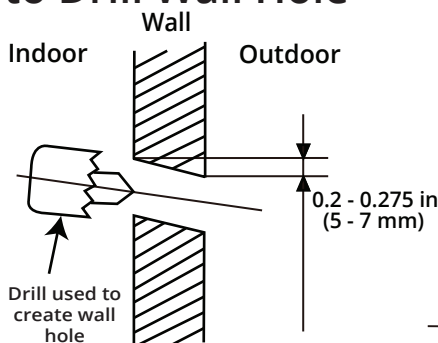

Fig. 4.3
2. Using a core drill, with a 2.5 in (65 mm) or 3.54 in (90 mm) diameter (depending on model), drill a hole in the wall at a slight downward angle, so that the indoor end of the hole is higher than the outdoor end of the hole, by approximately 0.2 in to 0.275 in (5 mm to 7 mm). This will ensure proper water drainage from the indoor unit (**See Fig. 4.3**). **NOTE: When gas piping is 5/8 in (16 mm) or larger, the wall hole should be drilled with a core drill that has a diameter of 3.54 in (90 mm).**